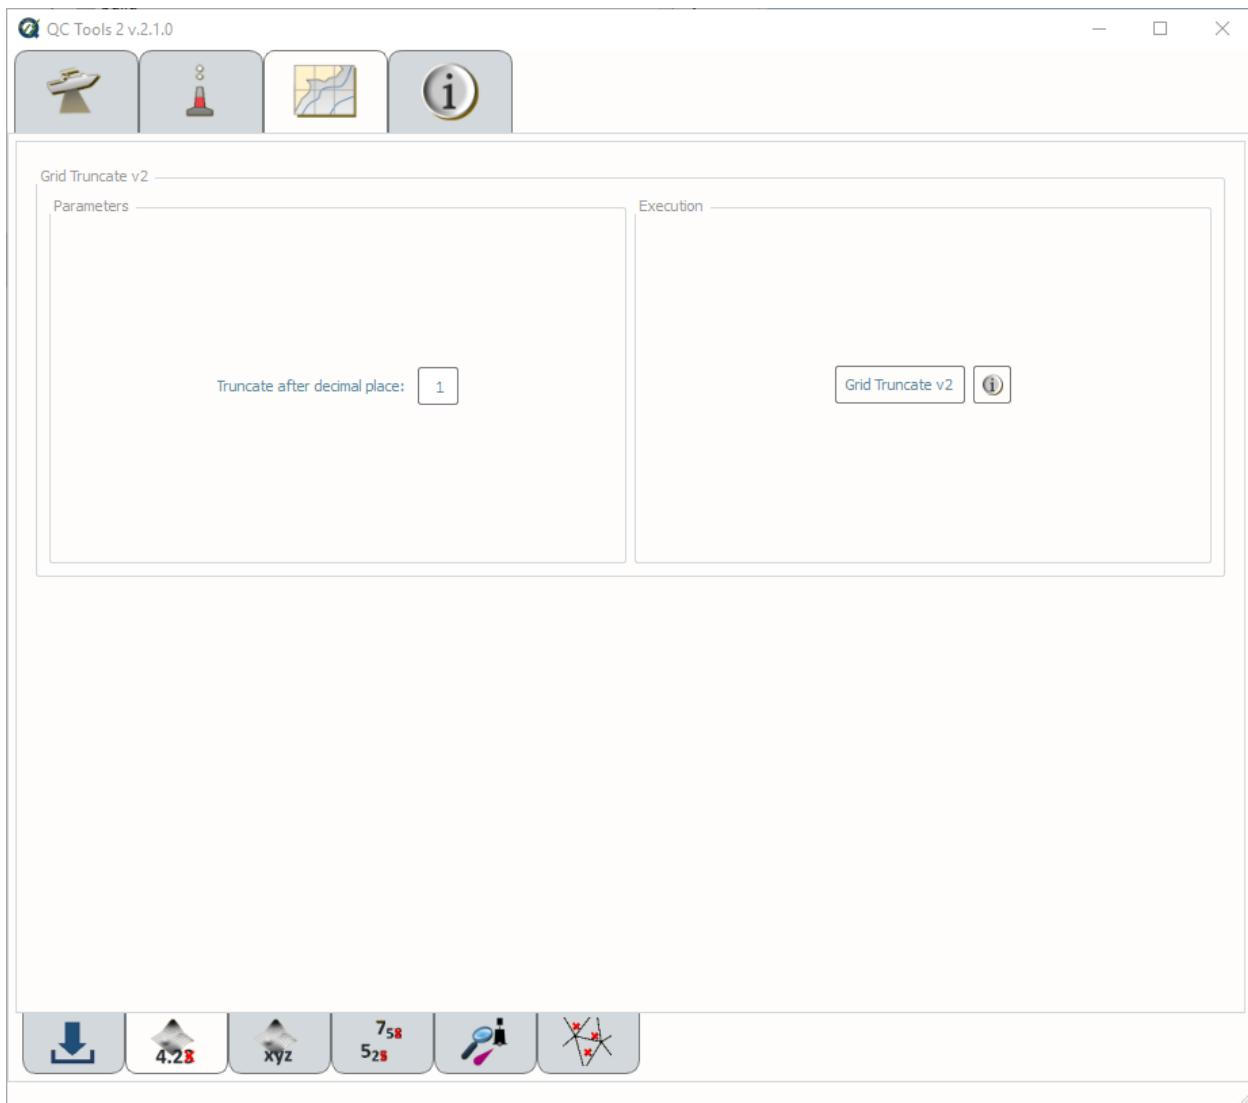

Fig. 2.72: Grid truncate's interface.
- In **Execution** (Fig. 2.72), click **Grid Truncate v2**.